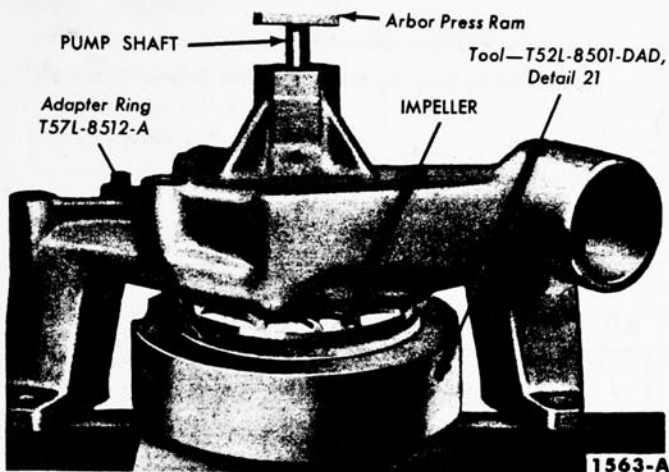

FIG. 11—Impeller Installation
5. Replace the impeller if it is worn or damaged. Coat the seal rubbing face of the impeller lightly with grease. Press the shaft into the impeller (Fig. 11). Press the shaft into the impeller until the pump housing lightly touches the face of the adapter ring. If excessive pressure is exerted on the shaft after the rear face of the housing contacts the adapter ring, the pump bearing will be damaged. Impeller to pump housing clearance is 0.030-0.040 inch.